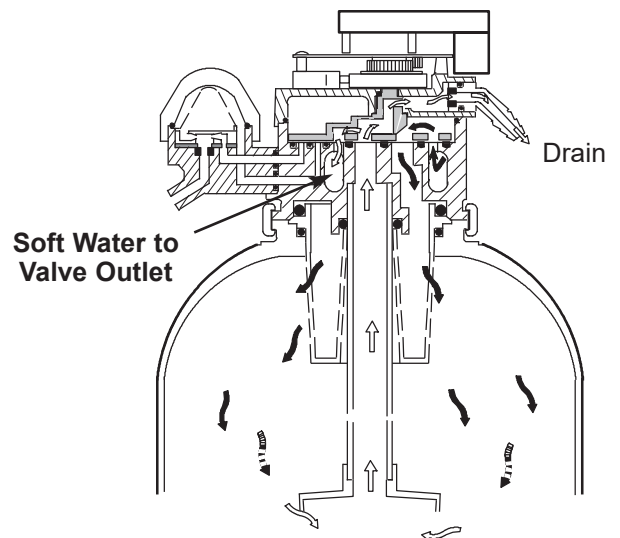

FIG. 18
**FAST RINSE (Figure 18):** After backwash, valve rotation places the unit in fast rinse. A continued fast flow of water reverses direction, flowing down through the bed. Any hardness minerals, brine, etc., remaining at the bottom of the bed are flushed up the standpipe, and to the drain. The fast flow packs the resin bed in preparation for service.